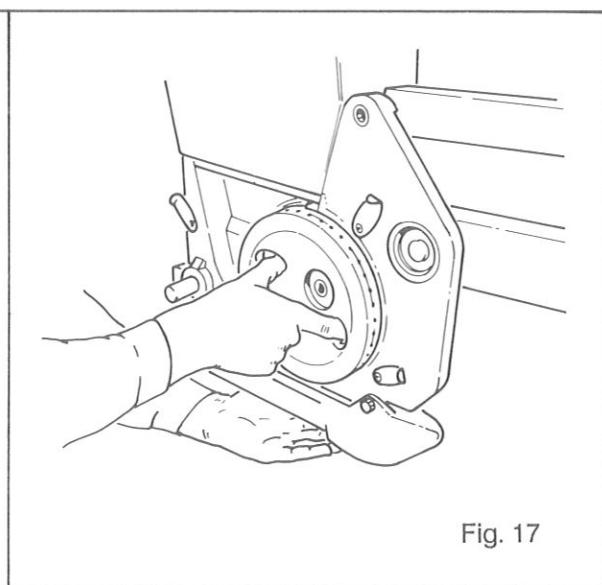

Fig. 17
- Grasp the cell wheel as shown in Fig. 17 and pull the disc straight out together with the ejector blade.